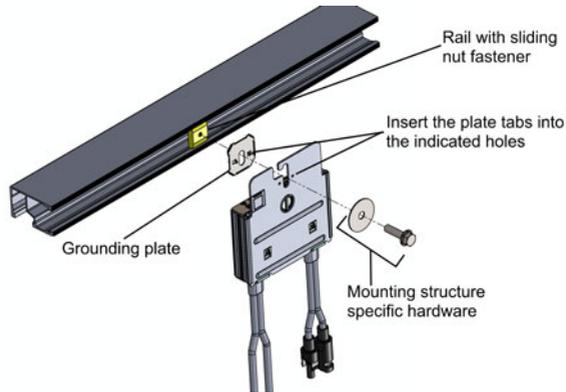

Figure 6: Power optimizer installation and grounding using a grounding plate
- **For mounting on rails with sliding nut fasteners:** If the star washer cannot be used, use the SolarEdge grounding plate (purchased separately) between the railing and the flat side of the mounting bracket. Use mounting specific hardware as needed. Apply torque of 9.5 N*m / 7 lb*ft. See *Figure 6*.